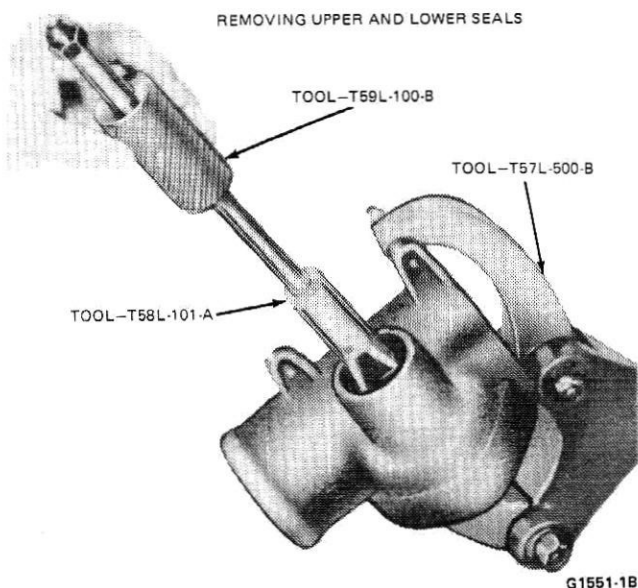

FIG. 7 Removing Upper and Lower Seals
2. Remove the lower seal from the housing (Fig. 7).